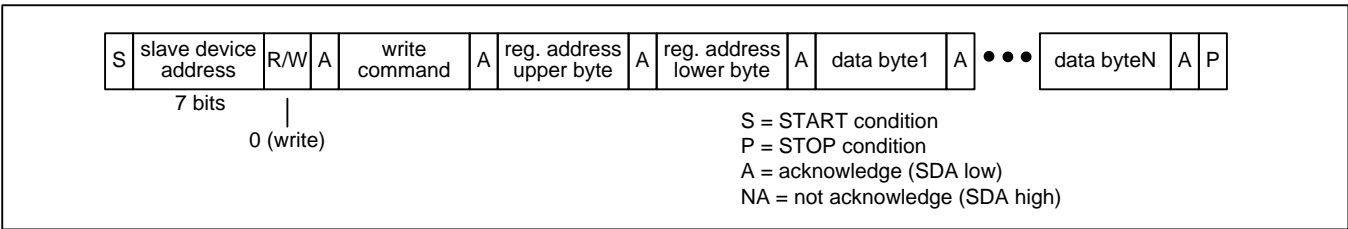

Figure 10 - I²C Register Write Transaction Functional Timing
Register Write Transactions. The device registers are accessible when the **EESEL** bit is 0. The bus master does an I²C write to the device. The first three bytes of this transaction are the SPI Write command (see Table 3), the upper byte of the register address, and the lower byte of the register address. Subsequent bytes are data bytes to be written. After each data byte is received, the device writes the byte to the write address and then increments the write address. The bus master terminates the write with a STOP condition (P). See Figure 10.